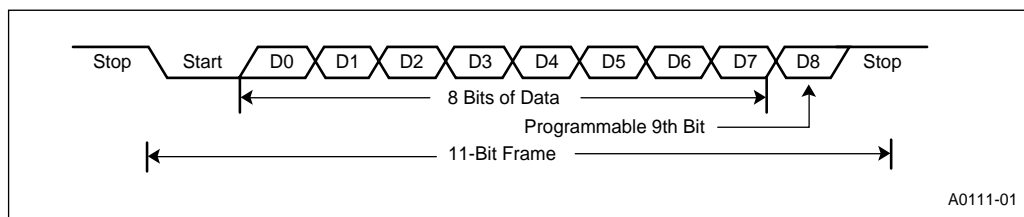

Figure 8-5. Serial Port Frames in Mode 2 and 3
Mode 2 is the asynchronous, ninth-bit recognition mode. This mode is commonly used with mode 3 for multiprocessor communications. Figure 8-5 shows the data frame used in this mode. It consists of a start bit (0), nine data bits (LSB first), and a stop bit (1). During transmissions, setting the TB8 bit in the SP_CON register before writing to SBUF_TX sets the ninth transmission bit. The hardware clears the TB8 bit after every transmission, so it must be set (if desired) before each write to SBUF_TX. During receptions, the RI flag and RI interrupt pending bit are set only if the TB8 bit is set. This provides an easy way to have selective reception on a data link. (See “Multiprocessor Communications” on page 8-8). Parity cannot be enabled in this mode.